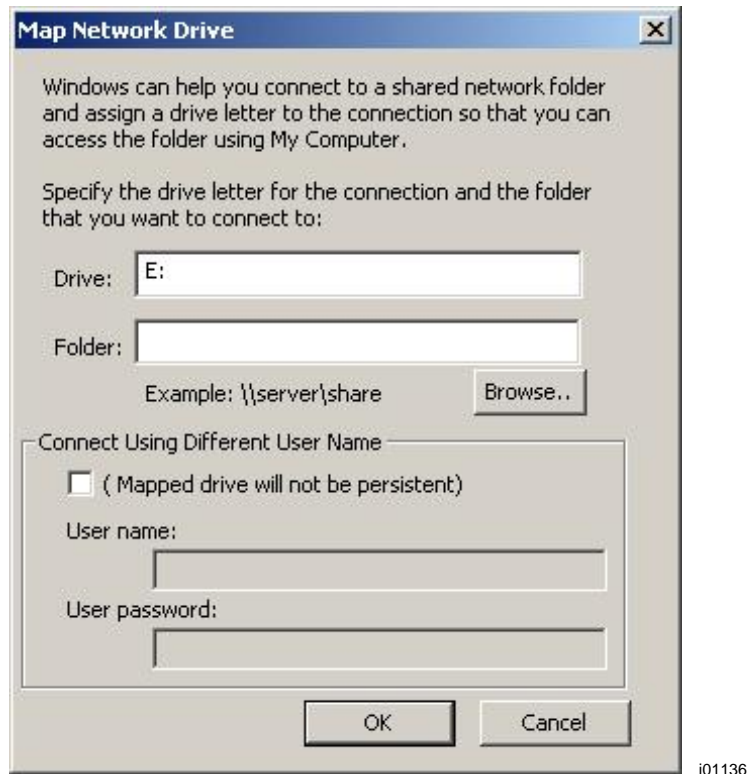

Figure 14.12.6 Enter E: in the Drive box and Browse for the file you shared on your computer.
3. In the Drive box, type in "E:" You must type in both the "E" and the ":". See Figure 14.12.6 below. (Drive letters A through D are used by other drives.)